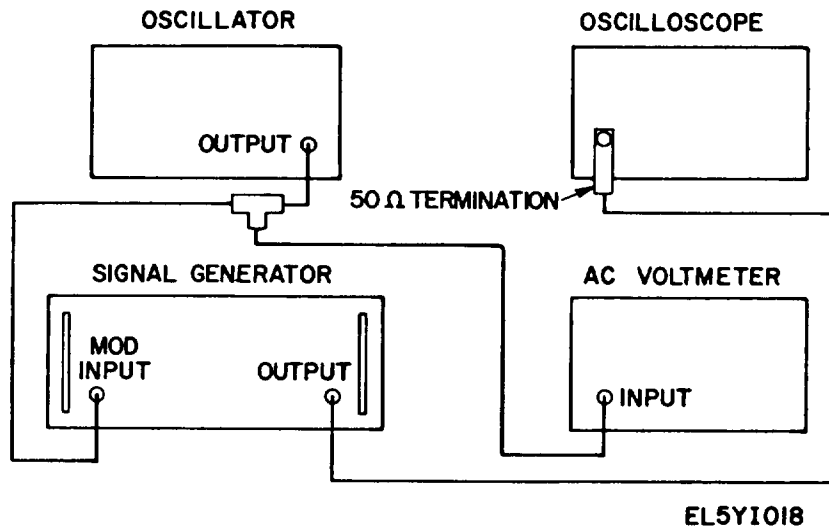

FIGURE 9-7. TEST SETUP, EXTERNAL AM
a. Connect the equipment as shown in figure 9-7.